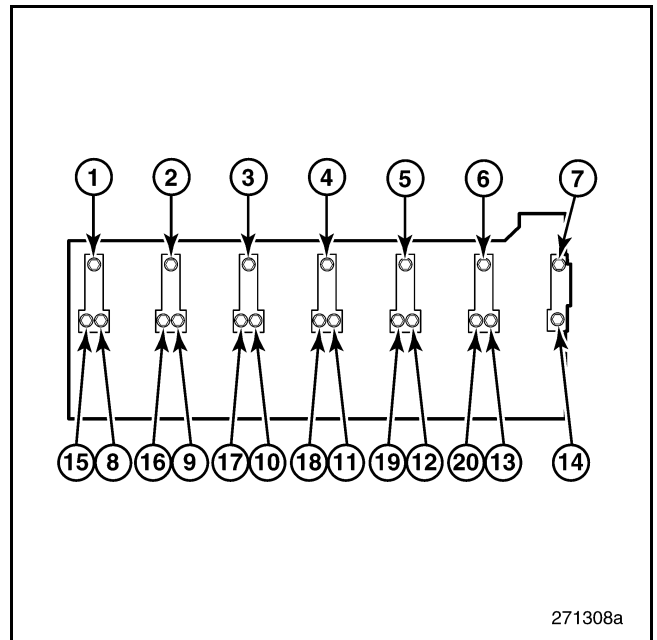

Figure 310 — Rocker Arm Shaft Screw Installation Sequence
5. Insert the long fasteners (Nos. 8–20 in Figure 310) through the shaft, camshaft bearing caps and into the cylinder head.